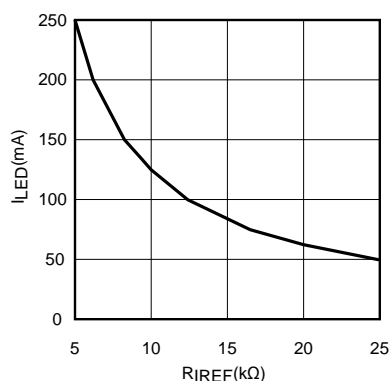

Figure 19.  $I_{LED}$  vs  $R_{IREF}$
The current of an LED string ( $I_{LED}$ ) is programmable from 50 mA to 250 mA by an external resistor  $R_{IREF}$  connecting from the IREF pin to the ground. The relationship between  $I_{LED}$  and  $R_{IREF}$  is shown in Figure 19. The two channels of the current regulator can work in parallel for only one LED string by connecting the IOUT1 and IOUT2 pins together to provide an LED current of up to 500 mA. In this case, the DIM1 and DIM2 pins should also be connected together.
**$R_{RT}$  and  $R_{IREF}$ :** The resistors  $R_{RT}$  and  $R_{IREF}$  set the switching frequency  $f_{SW}$  of the boost converter and the LED current  $I_{LED}$  respectively. From Figure 16, if  $f_{SW}$  is 300 kHz,  $R_{RT}$  is selected to be 499 k $\Omega$ . From Figure 19, if  $I_{LED}$  is 250 mA,  $R_{IREF}$  is selected to be 4.99 k $\Omega$ .